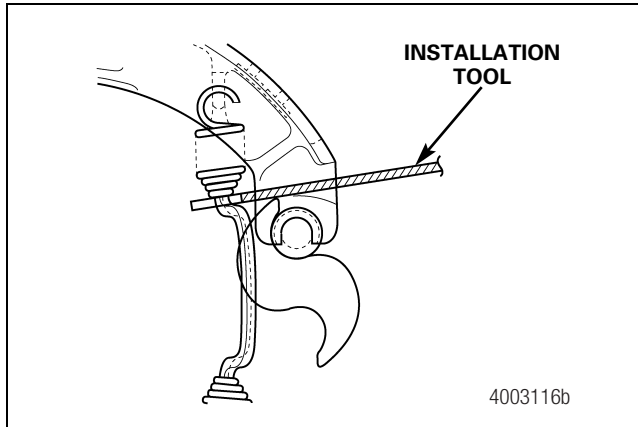

Figure 5.14
7. Use brake spring tool, tool drawing number TC-78220, to install the shoe return spring onto the brake shoes. Figure 5.14. Refer to Section 8, Figure 8.11, for instructions on how to build the tool.